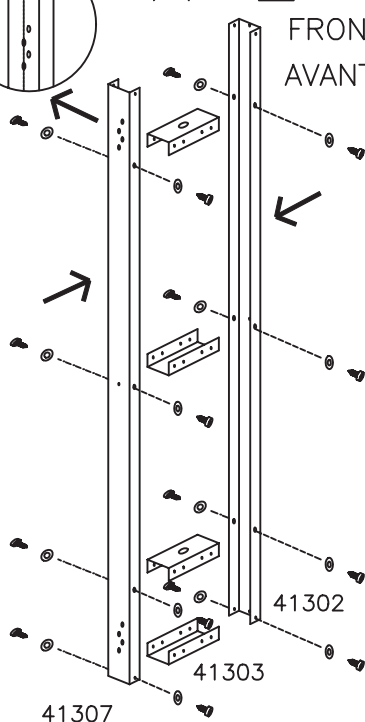

FIG. 1 41304
1. Line up holes on both 41304's as shown (fig 1).
1. SUPERPOSER LES DEUX PROFILES 41304 COMME INDIQUE (FIG 1).